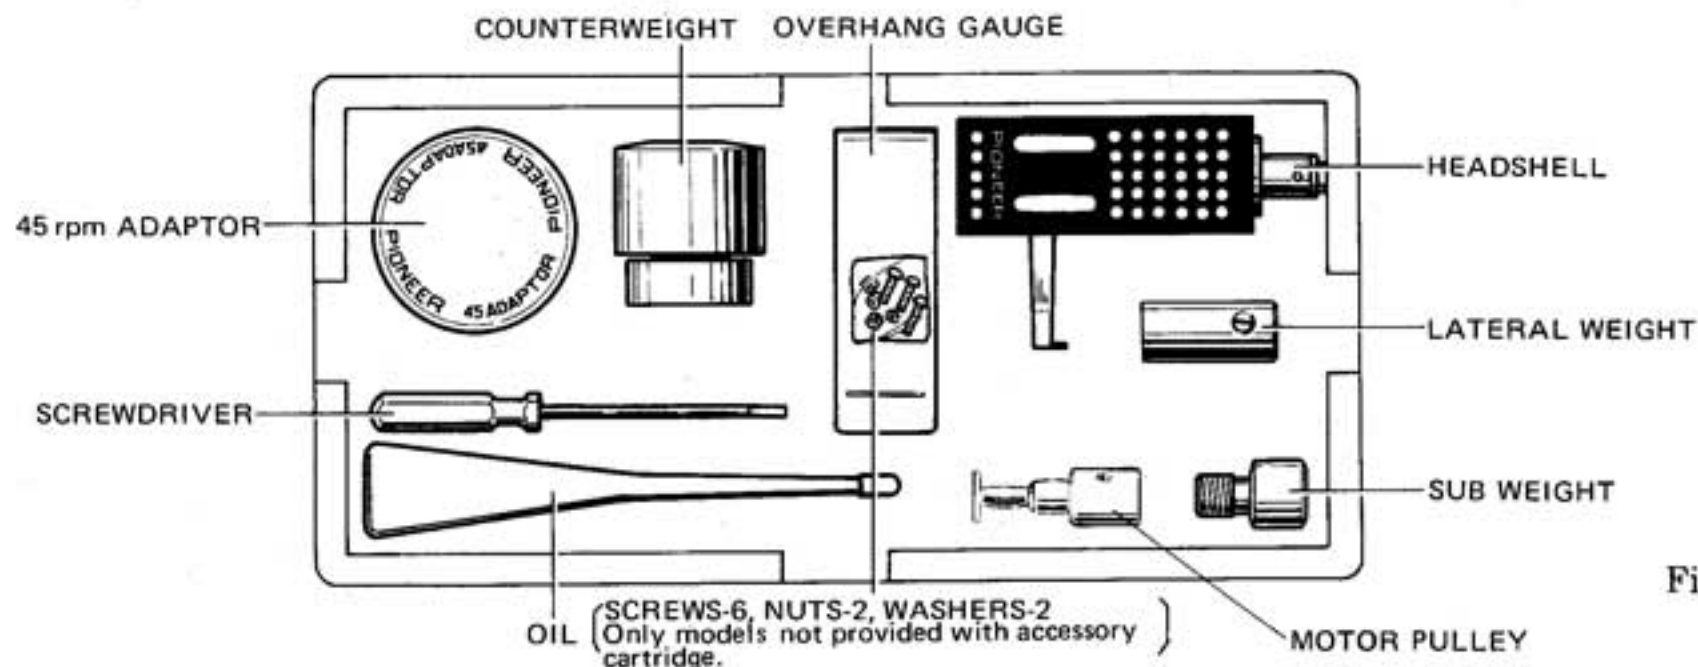

Fig. 4
1. When attaching the cartridge to the accessory headshell, use the headshell, screwdriver, overhang gauge, screws, nuts and washers supplied in the accessory box (Fig. 4).